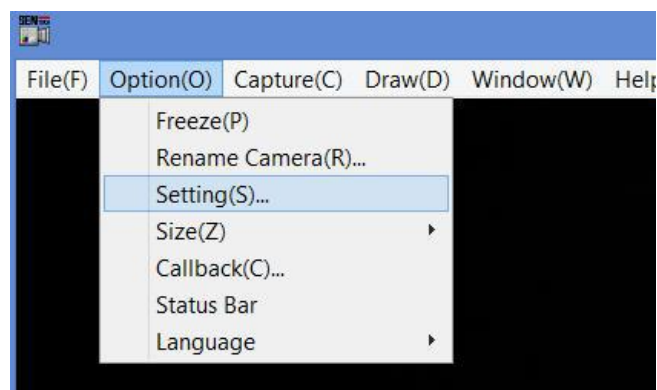

Figure 34 StCamsWare GUI
32. At StCamsWare, Go to Option and Select Setting as below Figure 34.